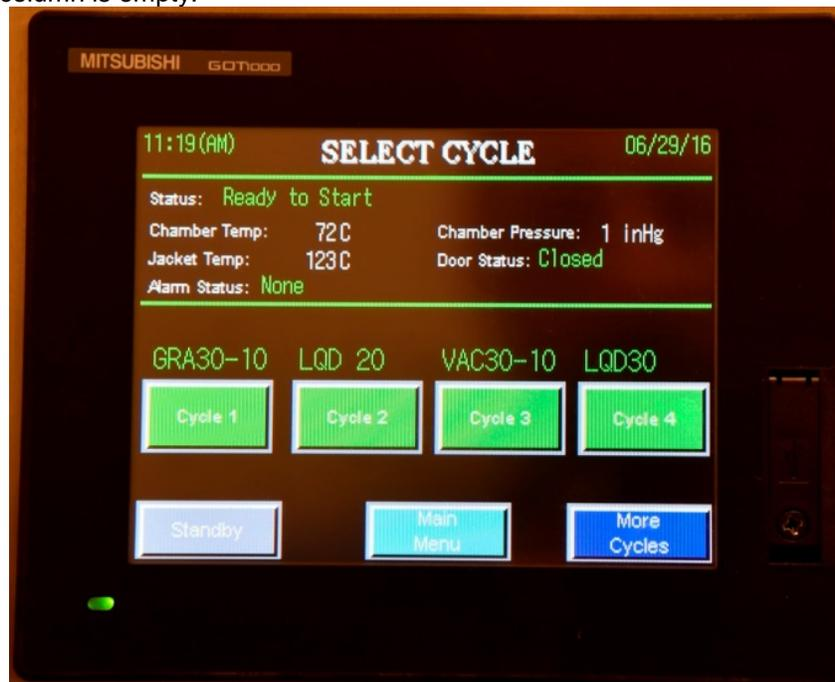

Figure 3. Select Cycle menu 1
- 5.8. Once in the Select Cycle menu you have 2 screens of cycles to choose from, as shown in figures 3 and 4. Press on the More Cycles button at the lower right corner of the screen to see the second screen of cycles. There are a total of 7 for use by the labs. Table 1 shows what each cycle is used for. Total times of the cycles are not yet known, so that column is empty.